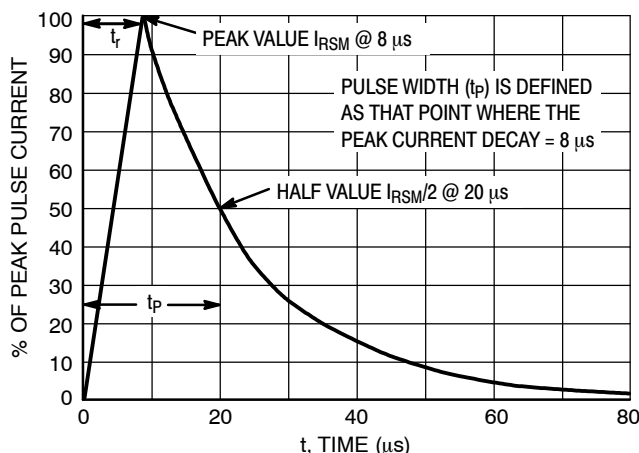

Figure 5. 8 X 20  $\mu$ s Pulse Waveform
1. Nonrepetitive current pulse per Figure 5 (Pin 5 to Pin 2).
- Nonrepetitive current pulse per Figure 5 (Pin 5 to Pin 2).
- Nonrepetitive current pulse per Figure 5 (Any I/O Pins).
- Surge current waveform per Figure 5.